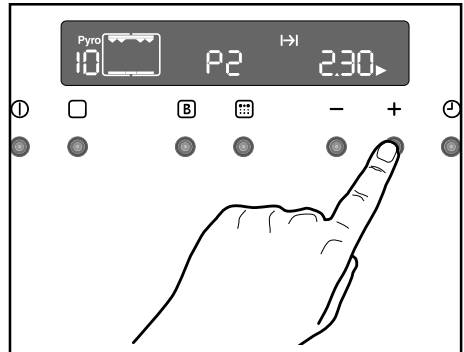

Fig. 19
2. The Cooking Duration symbol  will flash for 5 seconds; during this time push '-' or '+' buttons to select the pyrolytic 1 (P1) or pyrolytic 2 (P2) function (Fig. 19).